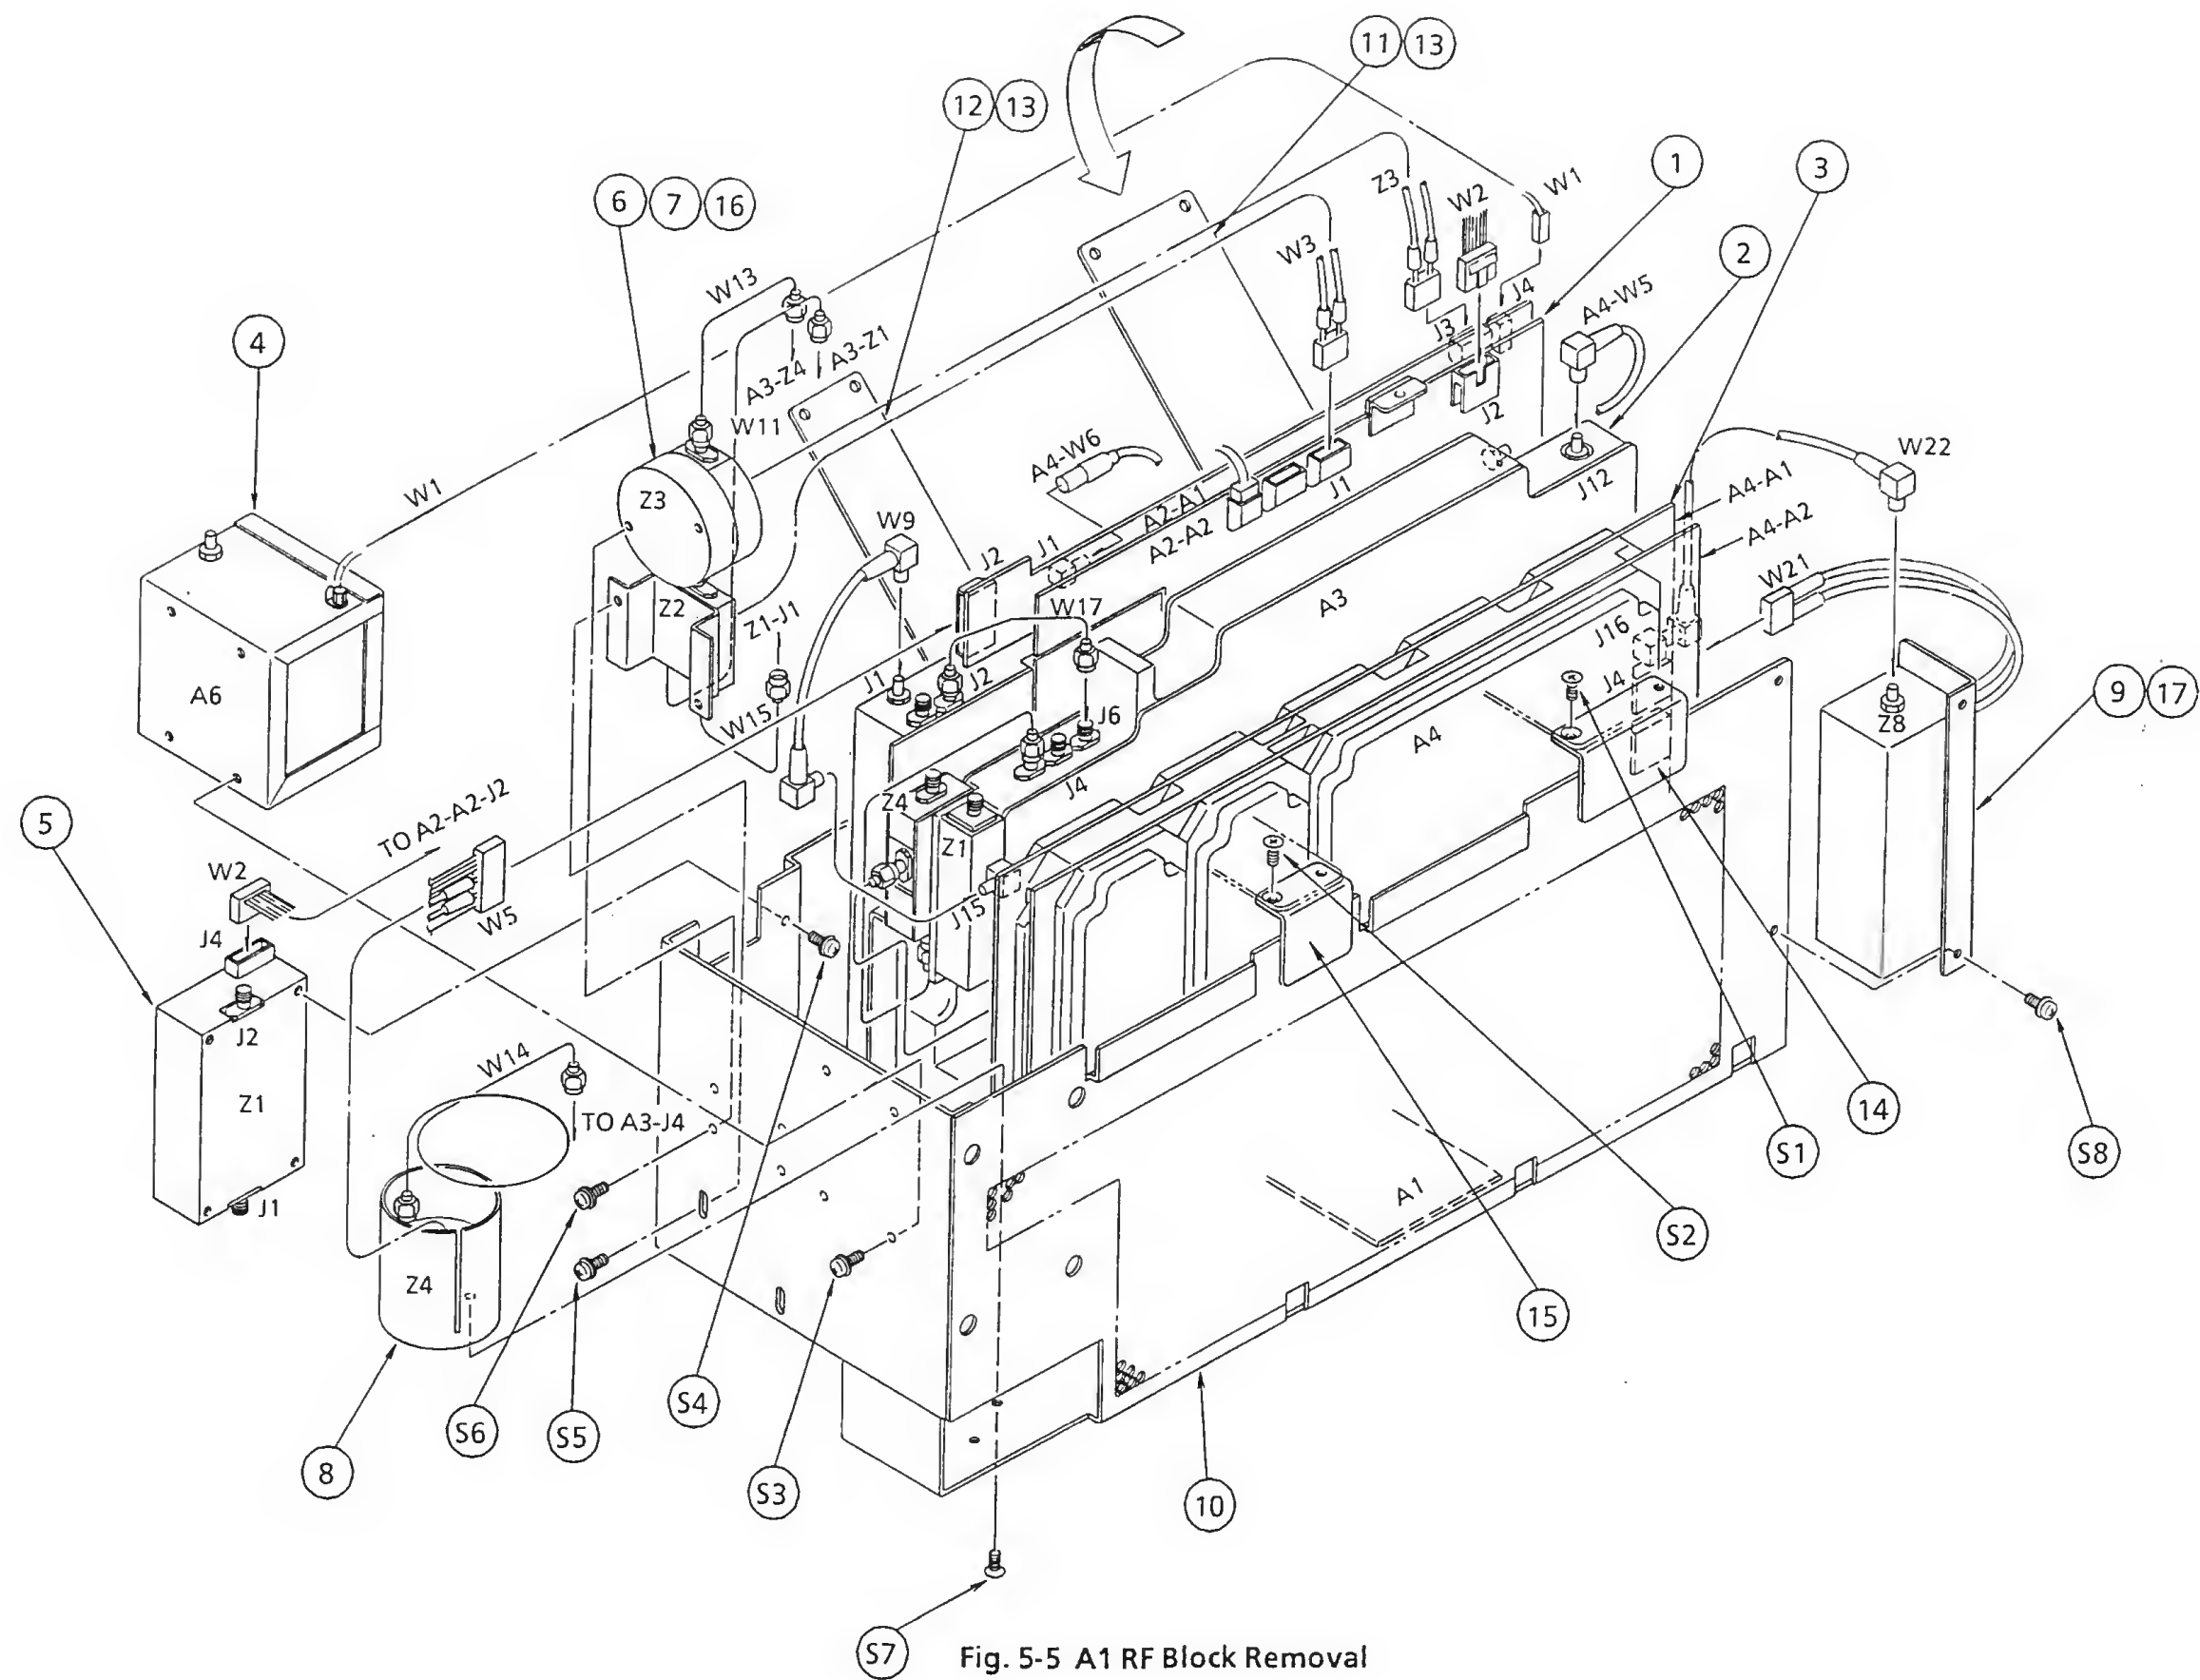

Fig. 5-5 A1 RF Block Removal
### 5.3.5 Removing A1-A2: RF CONT unit ① (Fig. 5-5)
### 5.3.6 Removing A1-A3: RF CONVERTER unit ② (Fig. 5-5)
### 5.3.7 Removing A1-A4: LOCAL unit ③ (Fig. 5-5)
### 5.3.8 Removing A1-A6: 10 MHz REF ④ (Fig. 5-5)
### 5.3.9 Removing Z1: P-ATT unit ⑤ (Fig. 5-5)
### 5.3.10 Removing Z2, Z3: SW, 8.5G YTF ⑥, ⑦ (Fig. 5-5)
### 5.3.11 Removing Z4: 2 to 8.6 GHz YTO unit ⑧ (Fig. 5-5)
### 5.3.12 Removing Z8: crystal unit ⑨ (Fig. 5-5)
**Note:** The ① to ③ units (Fig. 5-5) are removable with mounting the RF chassis at the main frame. However, it is necessary to remove the RF chassis from the main frame, when removing the ④ to ⑨ units (Fig. 5-5).